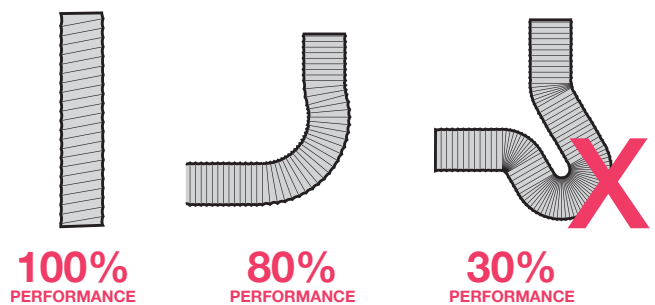

FIG.2
- Check that your ducting is pulled taut in the cavity. If there are any kinks or bends in the ducting, the in-line exhaust fan will not operate effectively. (FIG.2)